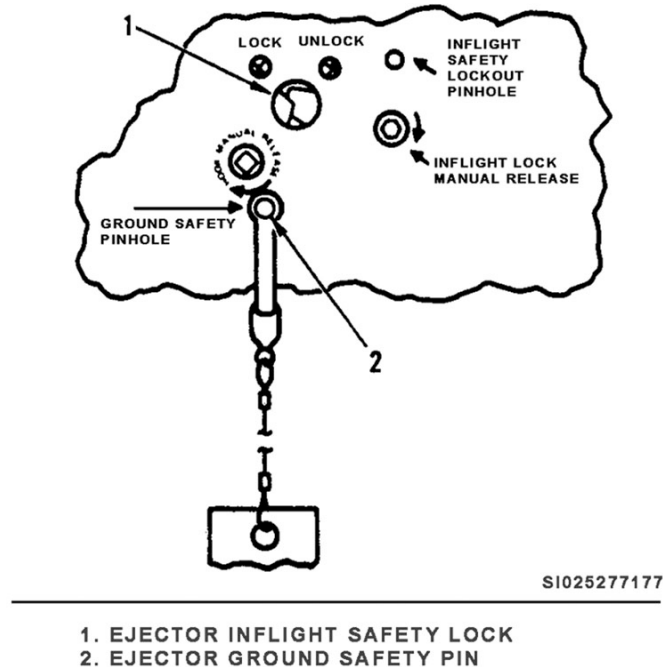

Figure 4-2. Ejector lock indications.
The ejector must be installed on the missile before you install the explosive cartridges or you might cause injury or even death to yourself or others. Also make sure the ejector part number is correct. Clean the shear bracket and missile ground pads with alcohol, then check the ejector piston feet and sway brace pads, make sure they are fully retracted. Attempt to separate the foot pad from the threaded stud by pulling the pad with moderate hand pressure. If the pad comes off or the area is damaged, replace the sway brace pad. Remove the ground safing pin and unlock the rack, thus opening the shackles. Remove the sensing switch cover. Align the rack over the missile and attach the rotary (separation) switch lanyard to the middle rack solenoid. Verify the connection by listening for an audible click or by feeling the D-ring snap in place. The lanyard must be looped out in a ‘U’ shape to either side of the rack and must be free to move. Now carefully lower the rack onto the missile clevises, using care not to pinch the lanyard. Rotate the HOOK MANUAL RELEASE clockwise (CW) to close the shackles. Verify the rack is locked by checking the IN-FLIGHT SAFETY LOCK inspection port and that it shows the IN-FLIGHT SAFETY LOCK is in the LOCK position (fig. 4-2). Now install the ground safing pin.